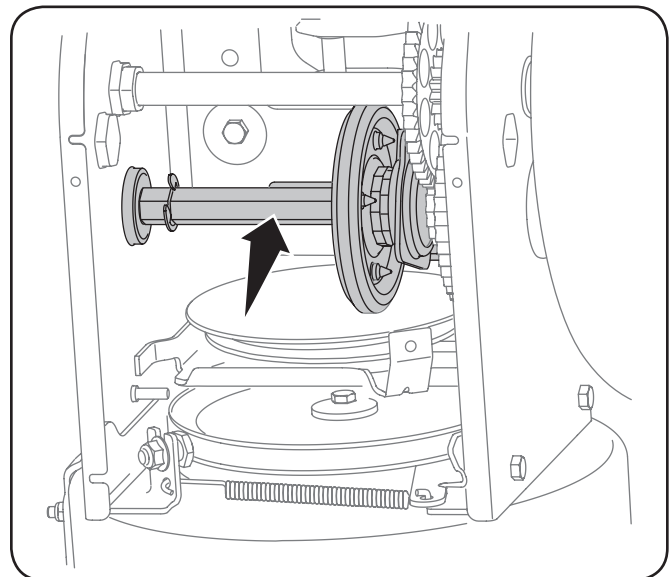

Figure 6-2
3. Apply a light coating of engine oil (or 3-in-1 oil) to the hex shaft. See Fig. 6-2.